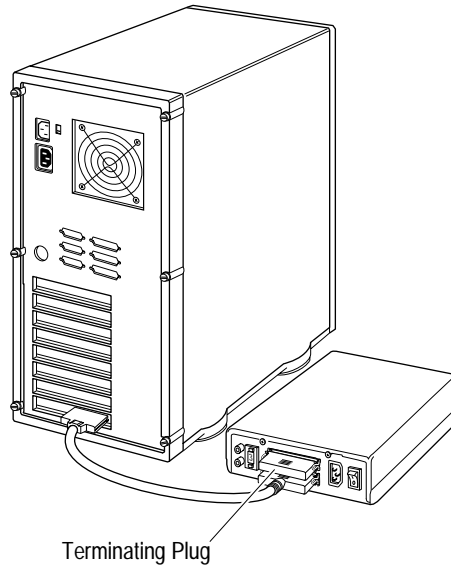

Figure 2-8. Attaching a Single External Device
- 3 Attach the connector at the other end of the cable to either one of the SCSI connectors on the external SCSI device, as shown in Figure 2-8. (If you are installing only one external device, attach a terminating plug to the device.)
To properly terminate the SCSI channel(s) on your system, refer to the motherboard documentation. On most internal SCSI devices, the termination setting is controlled by setting a jumper or a switch, or by physically removing or installing a resistor module(s). On most external SCSI devices, termination is controlled by installing or removing a terminating plug (see Figures 2-8 and 2-9). Refer to the device's documentation to determine how to enable or disable termination on your particular SCSI device.